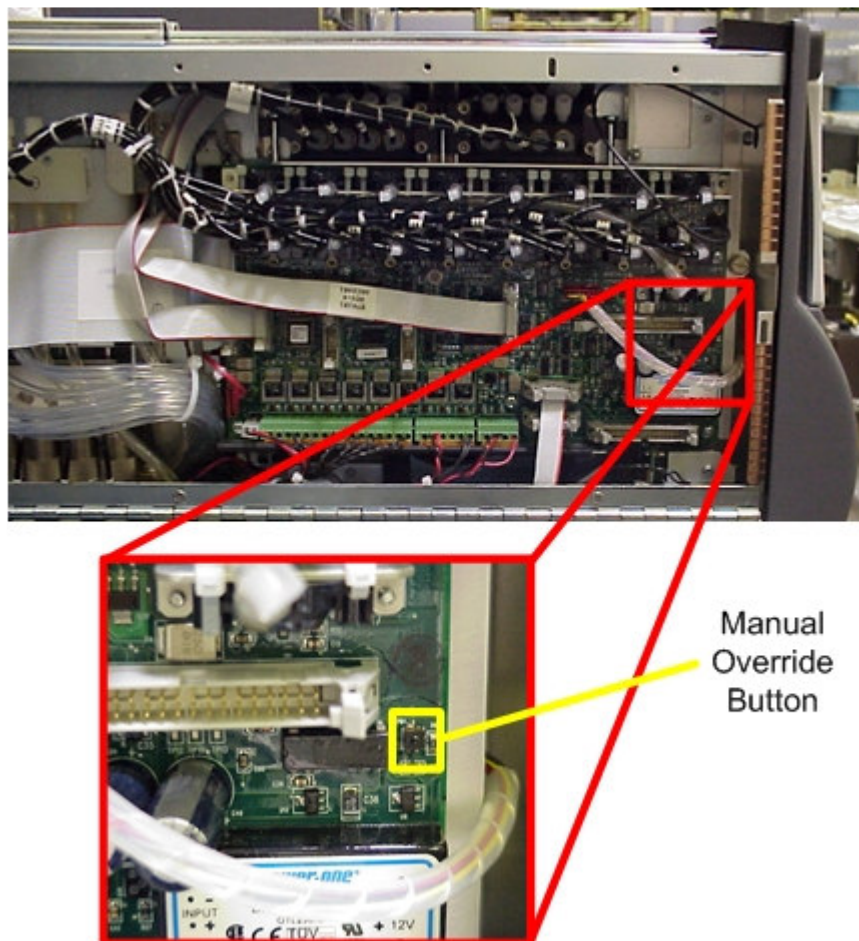

Figure 1 – Vertex Analyzer Manual Override Button Location
The Vertex Analyzer is equipped with a “Manual Override” button (Figure 1) in the event the communications to the Vertex Data Acquisition (DAQ) computer halts. This button activates only when the communications has completely ceased.
- Approximately 20 seconds after the Ethernet Cable has been disconnected, the Analyzer will recognize that it has lost communications with the DAQ and activate the “Manual Override” button shown in Figure 1. The LED’s on the front of the Analyzer will flash to show a Maintenance Fault per the LED status flash pattern shown below in Figure 6.